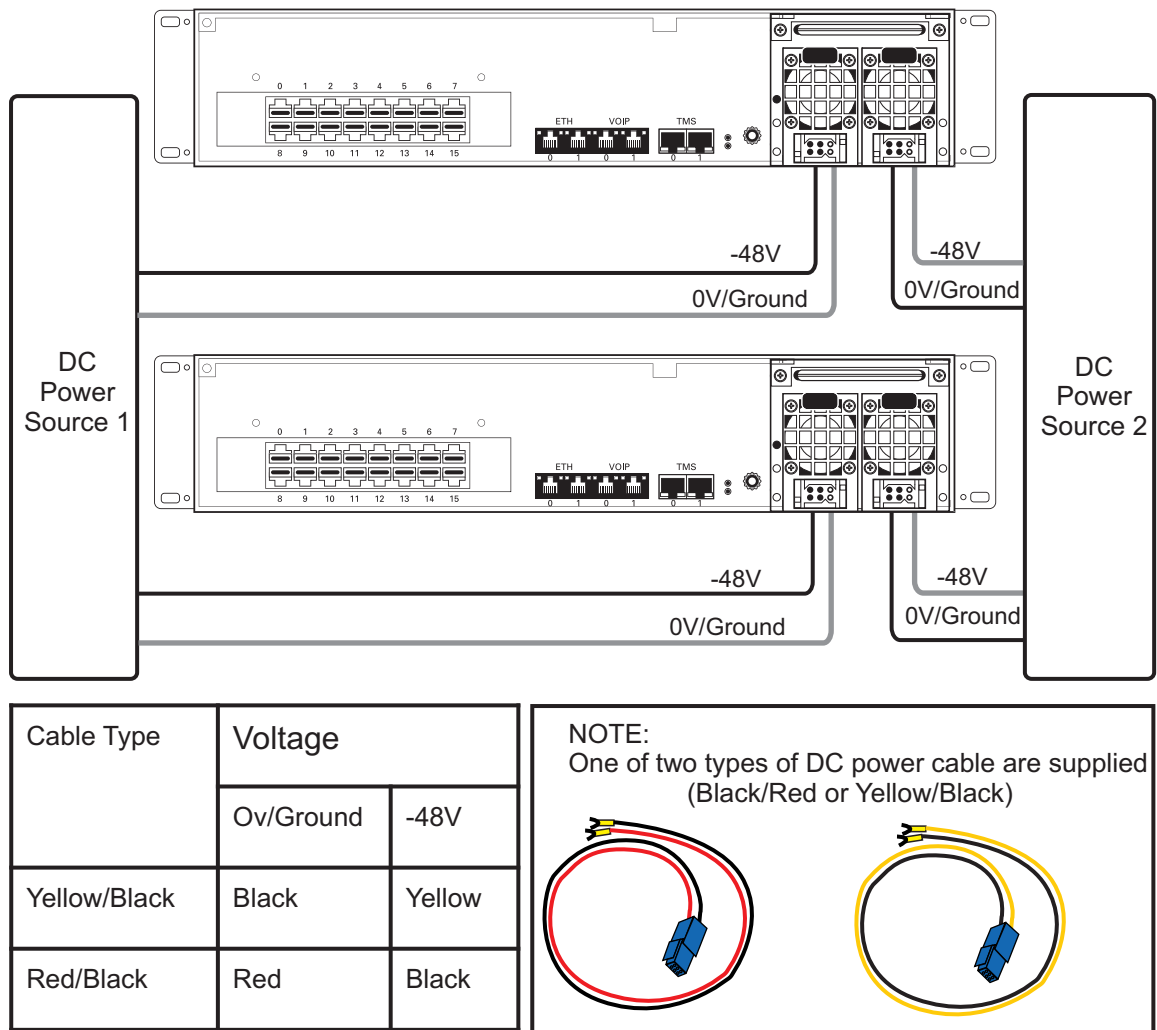

Figure 2.18 3200 Series and 3200 Series +1 DC Power Connections
1. Connect the first DC power connector of the 3200 series and 3200 series +1 units to DC power source one. See figure 2.18 on page 42.